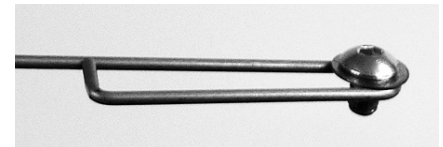

Figure 3
### Step 5: See Fig. 3
- **WITH Dogleg:** Install button bolt and washer "upside down" from Fig 3 (threads facing UP).
### Step 6: See Figs 3, 4 & 5